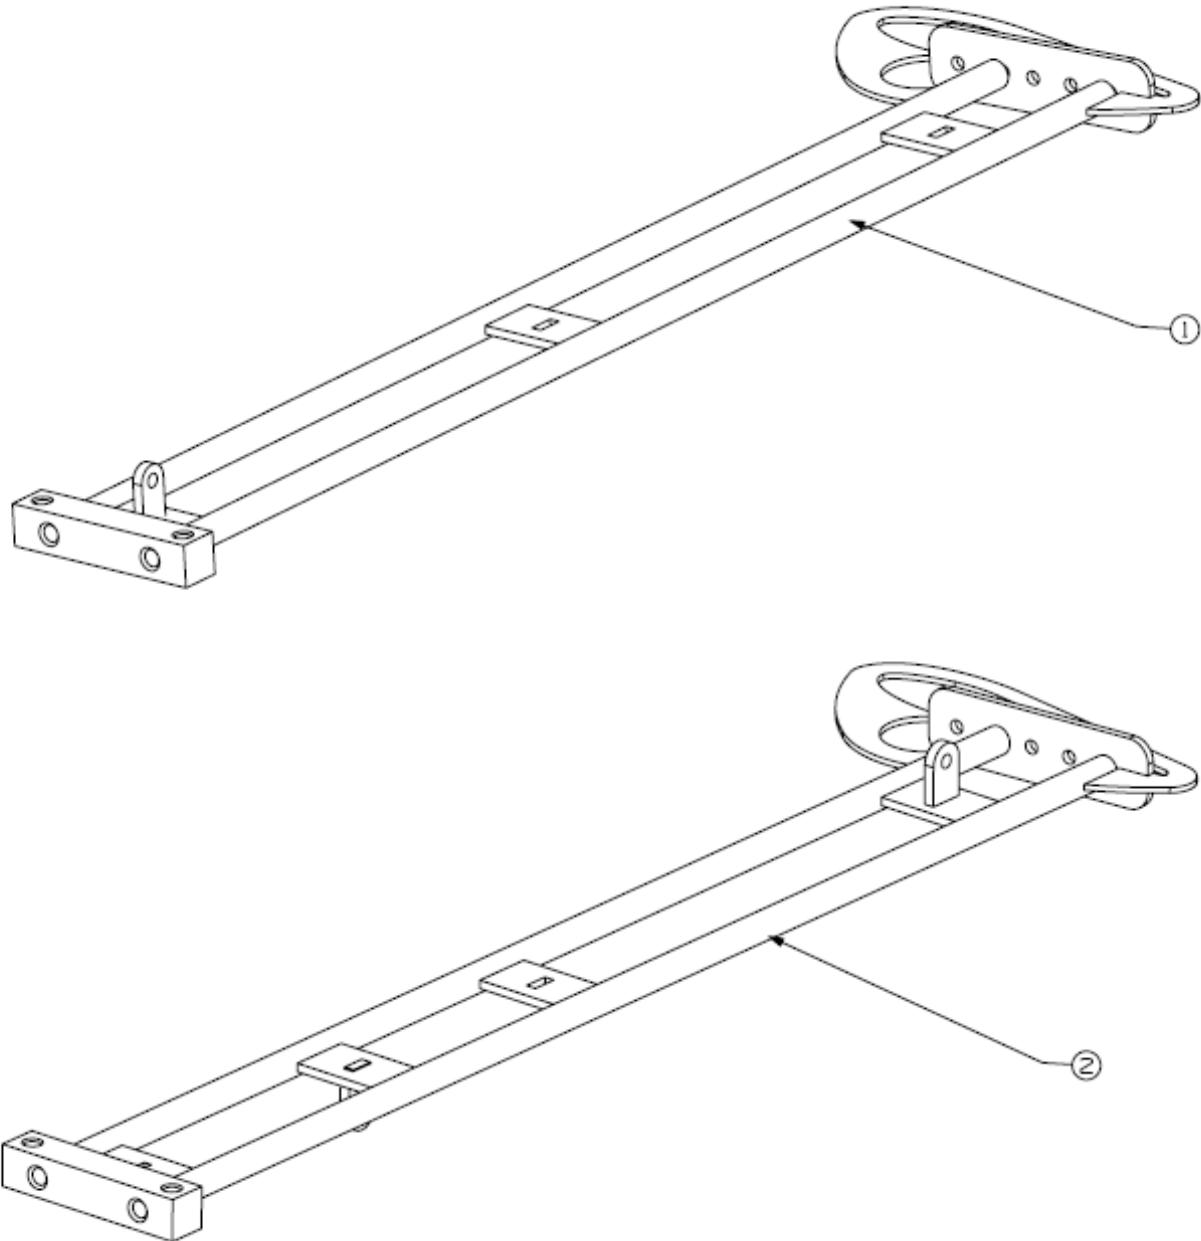
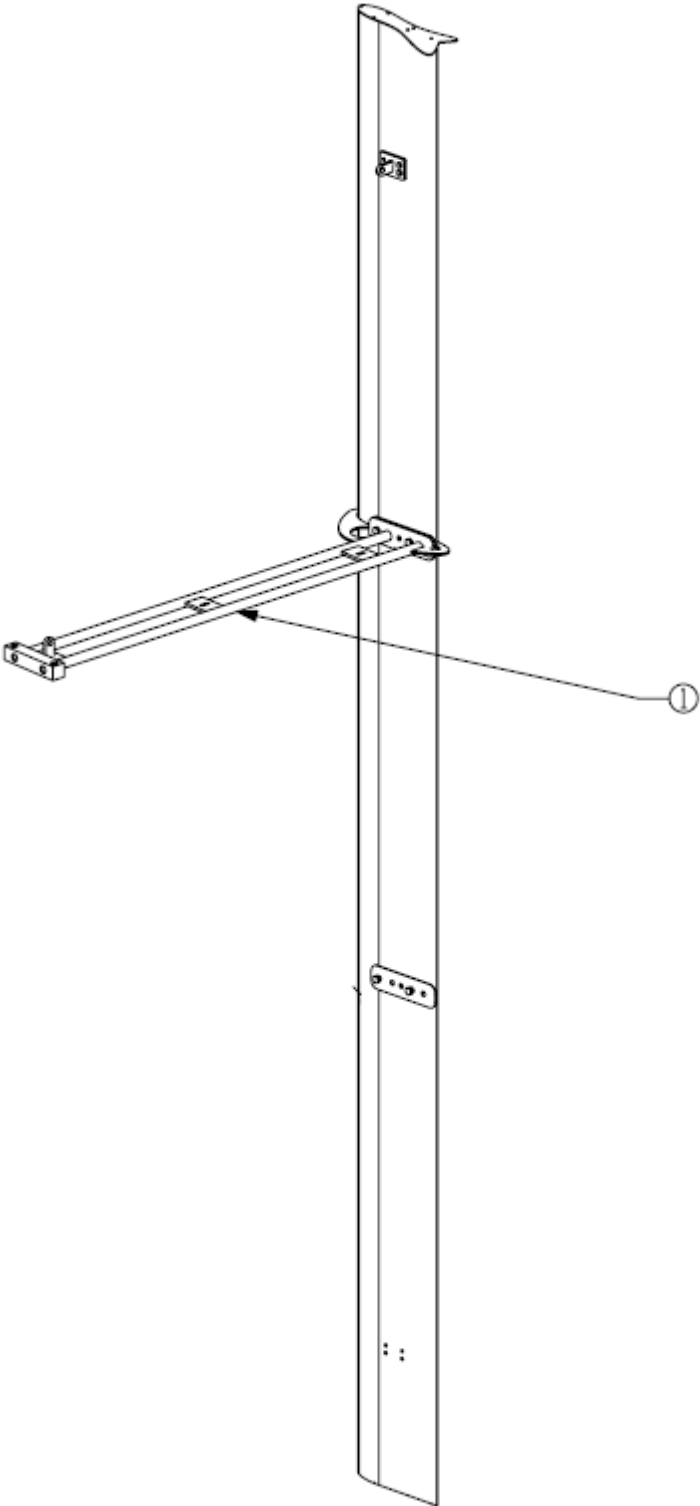
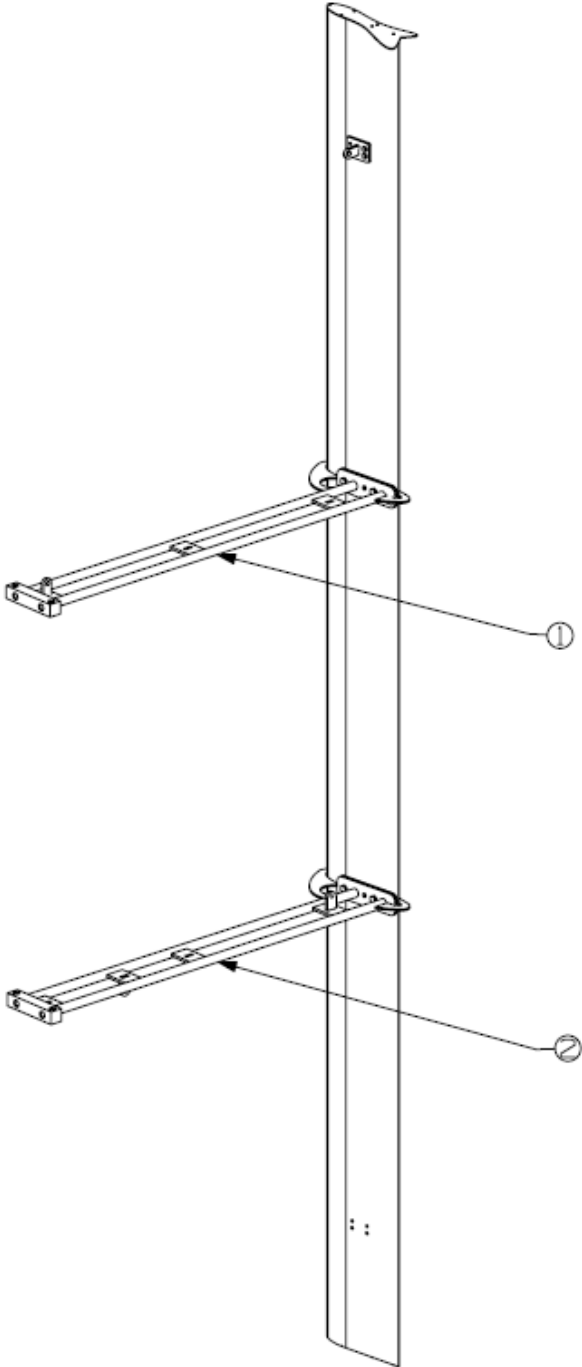

FIGURE 2
FIGURE 5
FIGURE 6
3. Carefully slide the upper (longer) strut onto the blade section (Fig. 2) as shown in Fig. 5. Use M12x30 and M12x35 screws to fasten the strut to the blade. Place M12x35 screws on the side of the leading edge of the blade (the thicker part of the profile section). Apply a small amount of red threadlocker on the threads of the screws and tighten initially with a flat wrench. Then tighten with a torque wrench to 80 Nm. Put white caps on the screws.
4. Carefully slide the lower (shorter) strut onto the blade section (Fig. 2) as shown in Fig. 6. Then proceed in a similar way to point 3.